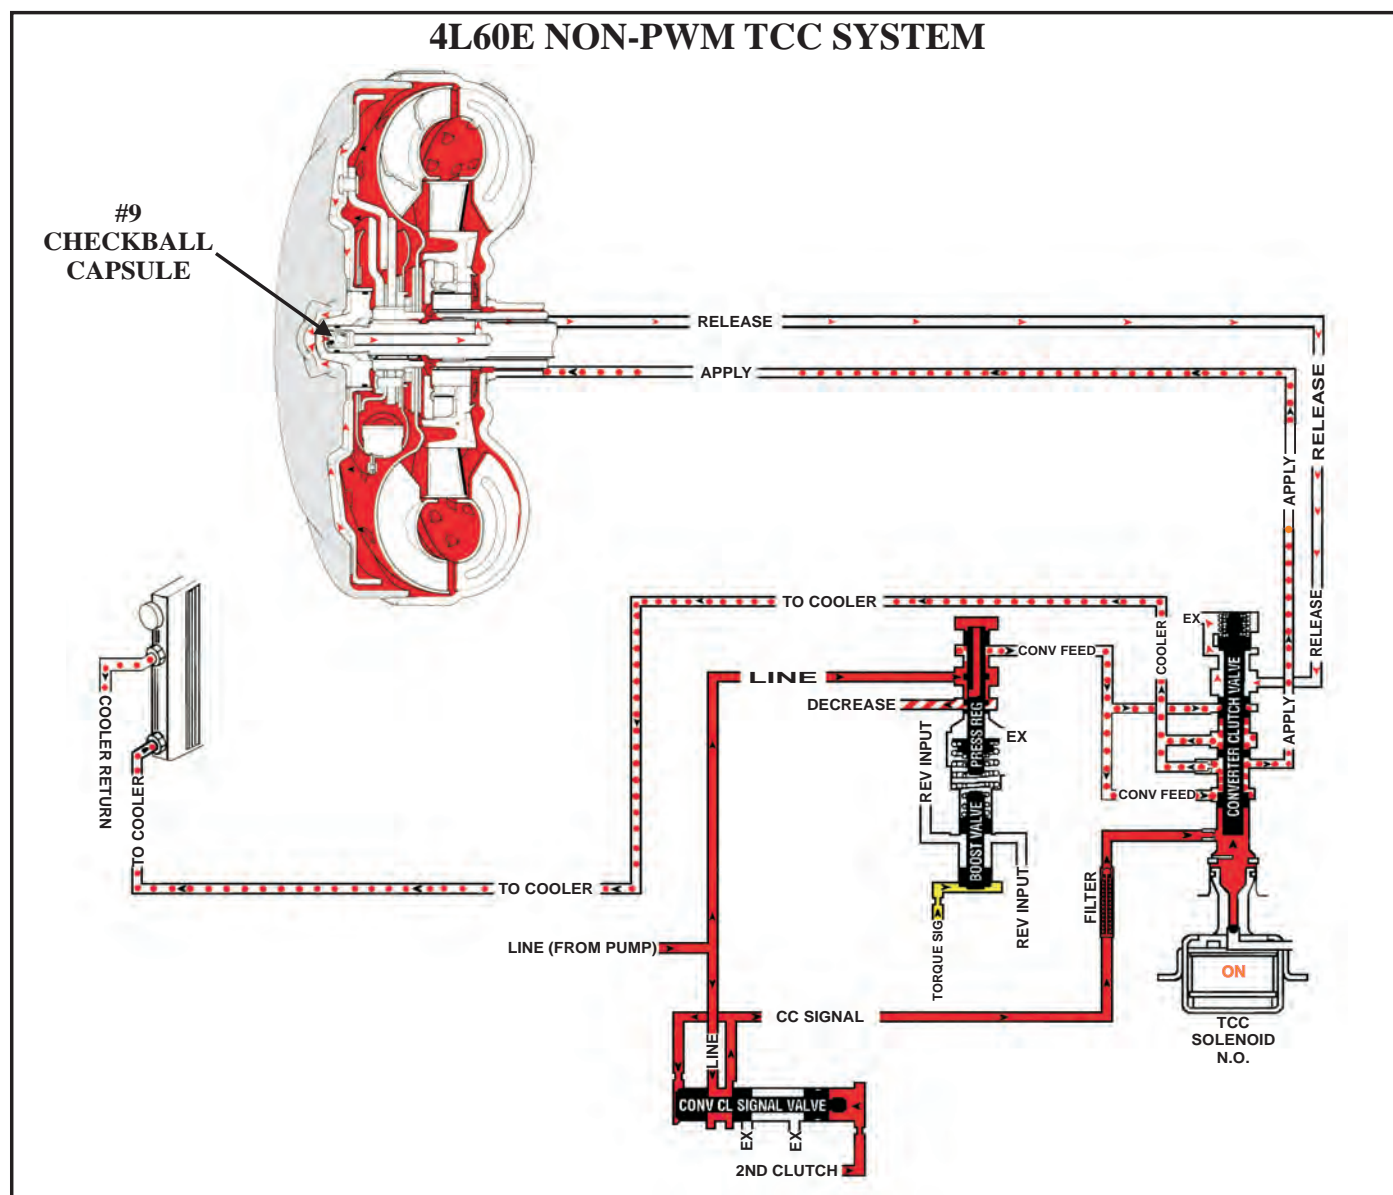

Figure 104
- The 4L60E NON-PWM TCC system in the hydraulic schematic in Figure 104 shown below shows the flow of the TCC apply and release circuits.